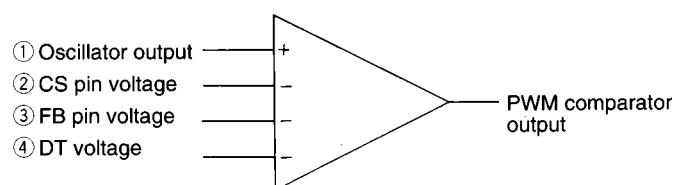
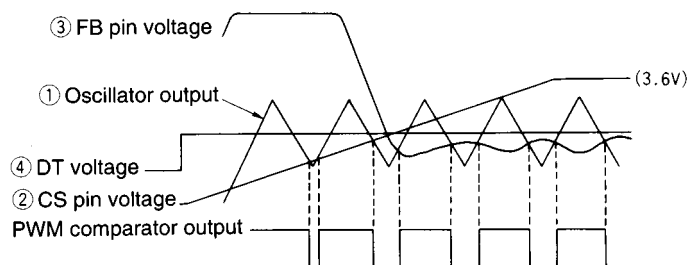

Fig. 3 PWM comparator
Fig. 4 PWM comparator timing chart
The PWM comparator has four inputs as shown in Figure 3. Oscillator output ① is compared with CS pin voltage ②, FB pin ③, and DT voltage ④. The lowest of three inputs ②, ③, and ④ is compared with output ①. If it is lower than the oscillator output, the PWM comparator output is high, and if it is higher than the oscillator output, the PWM comparator output is low (see Fig. 4).